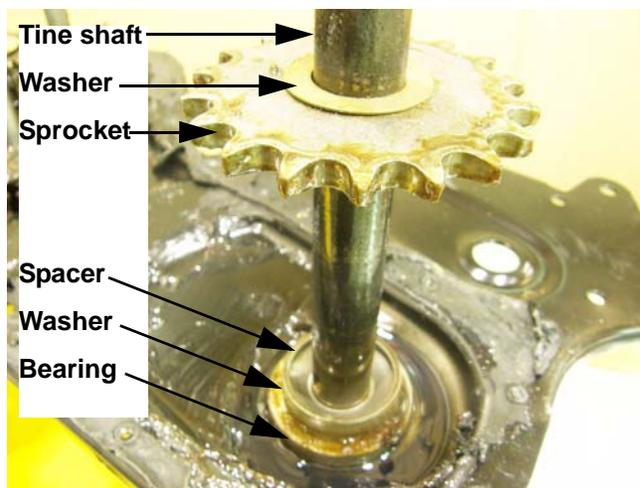

Figure 5.33
5. Notice the orientation of the spacer and the tine shaft: See Figure 5.33.
- The convex side of the spacer goes toward the sprocket, so that the bead fits into the recess in the spacer. See Figure 5.33.